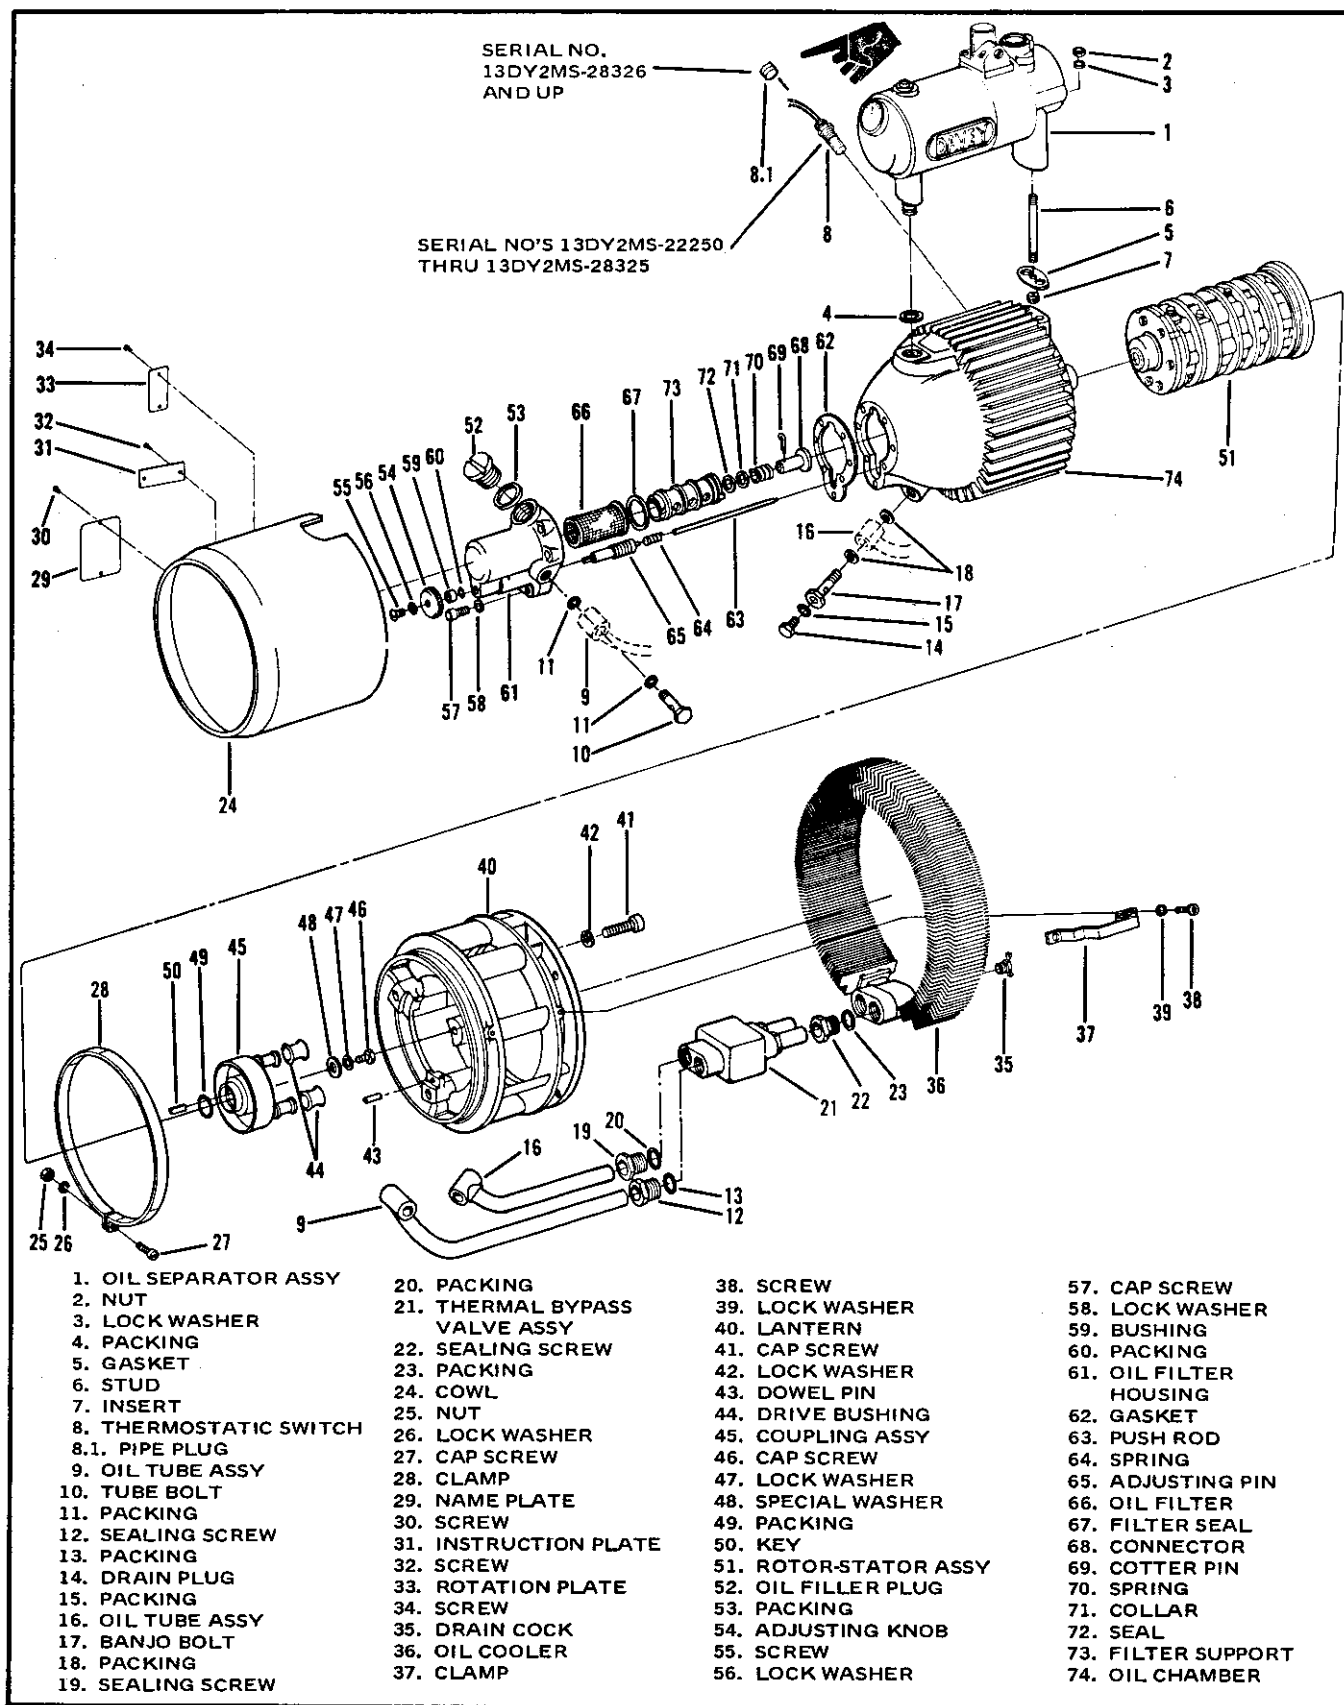

Figure 5-2. Rotary Compressor Assembly - Disassembly and Assembly
- (2) Assemble the minimum pressure valve assembly (5 through 14) in the order shown on exploded view and, using new gasket (15), secure the assembly to casing (40) with four socket head cap screws (3, 4), two each. Discharge opening of elbow (14) should face to the side shown.
- (3) Assemble safety valve (31) into casing (40). Position the two grids (36), three felts (37), two seals (38) and wires (39) inside casing (40) in the order shown.
- (4) Assemble air pressure gauge (32) into cover (34) installing o-ring packing (33) and securing to cover (34) with nut provided with gauge. Apply a light film of compressor lubricating oil to o-ring packing (35) and assemble in groove of cover (34). Assemble the cover assembly in casing (40) with hole in cover aligned with hole in casing for bolt (1).
- (5) Position the oil separator assembly on the compressor oil chamber as shown in figure 5-2. Use new gasket (5, figure 5-2) and o-ring (4). Attach air intake end to stud (6) with lock washer (3) and nut (2). Assemble o-ring packing (2, figure 5-1) on bolt (1) and assemble bolt (1) through separator casing attaching separator assembly to the compressor oil chamber.
- (6) Use a new intake elbow gasket and carefully assemble the intake elbow, with air cleaner installed, on the intake end of casing (40) using two socket head cap screws.
5-7. Compressor Oil Filter (figure 5-2). Maintenance of the compressor oil filter is as follows:
a. Disassembly Disassemble the compressor to extent necessary to gain access to filter (66) as follows:
- (1) Disconnect oil tube assembly (9) at filter housing (61) by removing bolt (10) and o-ring packing (11).
- (2) Remove seven socket head cap screws (57) and lock washers (58). Pull filter housing (61) away from oil chamber (74) and remove gasket (62).
- (3) Slide filter (66) off filter support (73). Removal of other parts is not necessary unless cleaning of these parts is evident. If necessary, disassemble these parts as shown on figure 5-2.
c. Inspection. Inspect the filter (66, figure 5-2) for distortion, breaks in screen, and enlarged holes (punctures). Inspect all removed parts for crack, breaks, and damaged threads.
- (1) Assemble all parts removed in the order illustrated on figure 5-2.
- (2) Use a new gasket (62) and position the filter housing (61), with assemblage of the other parts shown in place, against the oil chamber (74).
- (3) Attach filter housing (61) with seven lock washers (58) and socket head cap screws (57). Attach the oil tube assembly (9) to filter housing (61) with o-ring packing (11) and bolt (10).
- a. To increase unloading pressure of the air compressor, turn the adjusting knob (54, figure 5-2) in a clockwise direction.
- b. To decrease the unloading pressure, turn the adjusting knob (54) in a counterclockwise direction.